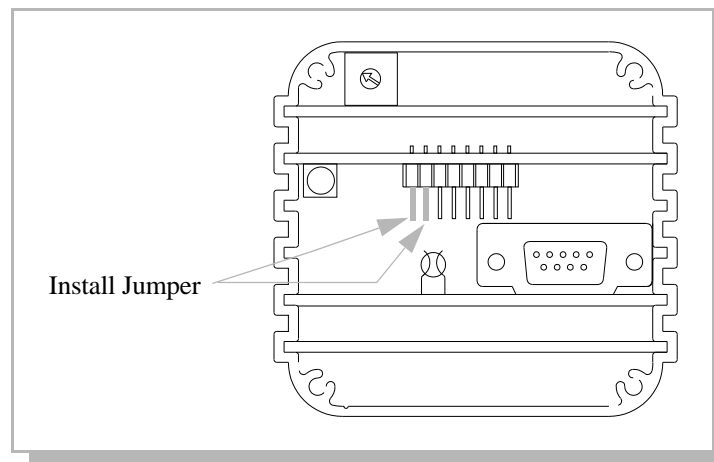

Figure 4-3
Make sure the jumper is only installed between the pins shown in Figure 4-3. Otherwise, damage to the Mini-Ion Vacuum Gauge Module may occur.
5. Connect a jumper wire to the pins as shown in Figure 4-3.